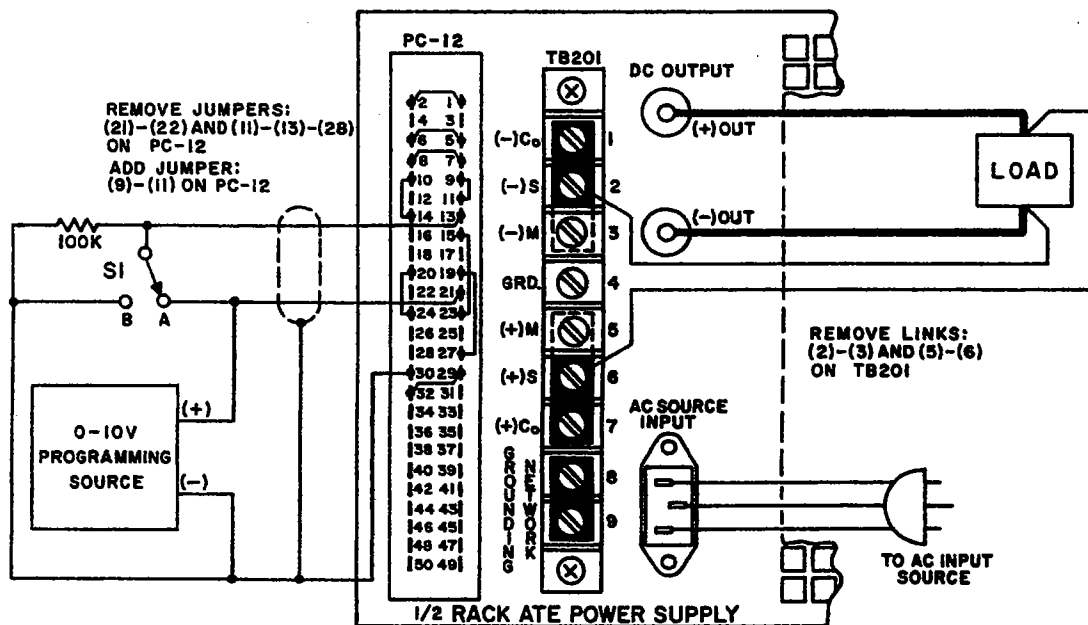

FIG. 3-15 CONNECTIONS FOR SIMULTANEOUSLY PROGRAMMING THE ATE OUTPUT VOLTAGE AND THE CROWBAR LEVEL (AUTOMATIC TRACKING).
- 1) Connect jumpers on the REAR PROGRAMMING CONNECTOR as indicated in FIG. 3-15 and connect switch (S1) as shown. Turn front panel CROWBAR LEVEL control fully counterclockwise.
- 2) Connect a substitute LOAD and the EXT. PROGRAMMING SOURCE as shown in FIG. 3-15.
- 4) Remove S1, and connect a jumper between (13)-(21) of PC-12. Connect the actual LOAD, reactivate the ATE circuit breaker and commence operation. Should erratic triggering occur in actual operation, set front panel CROWBAR LEVEL control slightly clockwise. This will increase the "threshold" voltage; that is, the difference voltage between the crowbar level and the operating voltage.
- ⁽¹⁾ For operation with the ATE in "FAST" mode, all connections shown in FIG. 3-15 are valid, for both "SLOW" and "FAST" operating modes, except as follows:
- 2) Do not add jumper (9)-(11) on PC-12.
- 3) Remove only jumpers (21)-(22) and (11)-(13), not jumper (13)-(28) on PC-12.
- 4) In paragraph 3-77, Step 4, connect jumper between pins (11) and (21), not between (13) and (21).